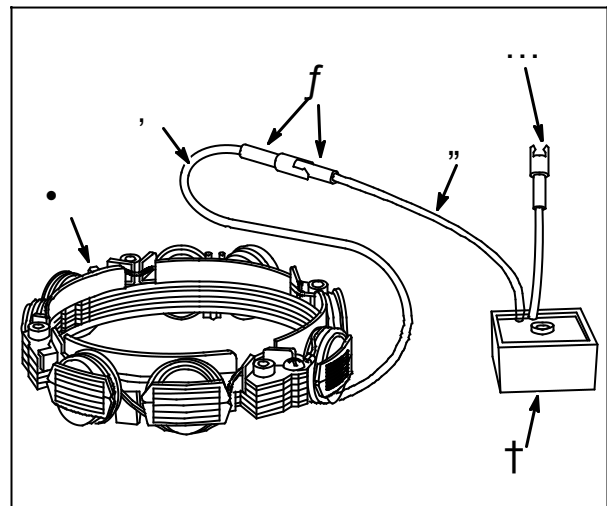

Fig. 23
Stator assembly (1), **Fig. 23**.